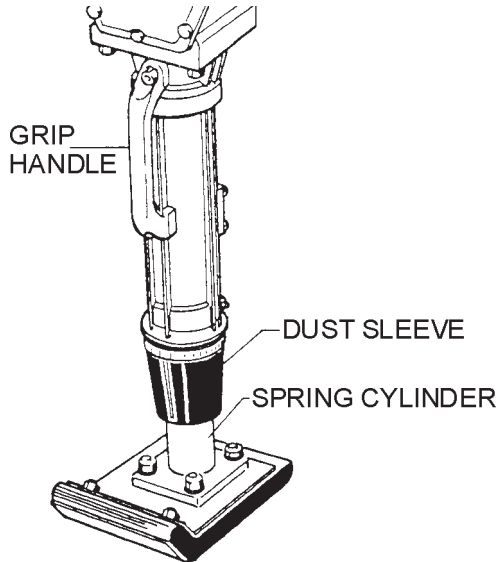

Figure 2. Grip Handle
1. When transporting the machine, carry it by the grip handle located on the body (Figure 2).